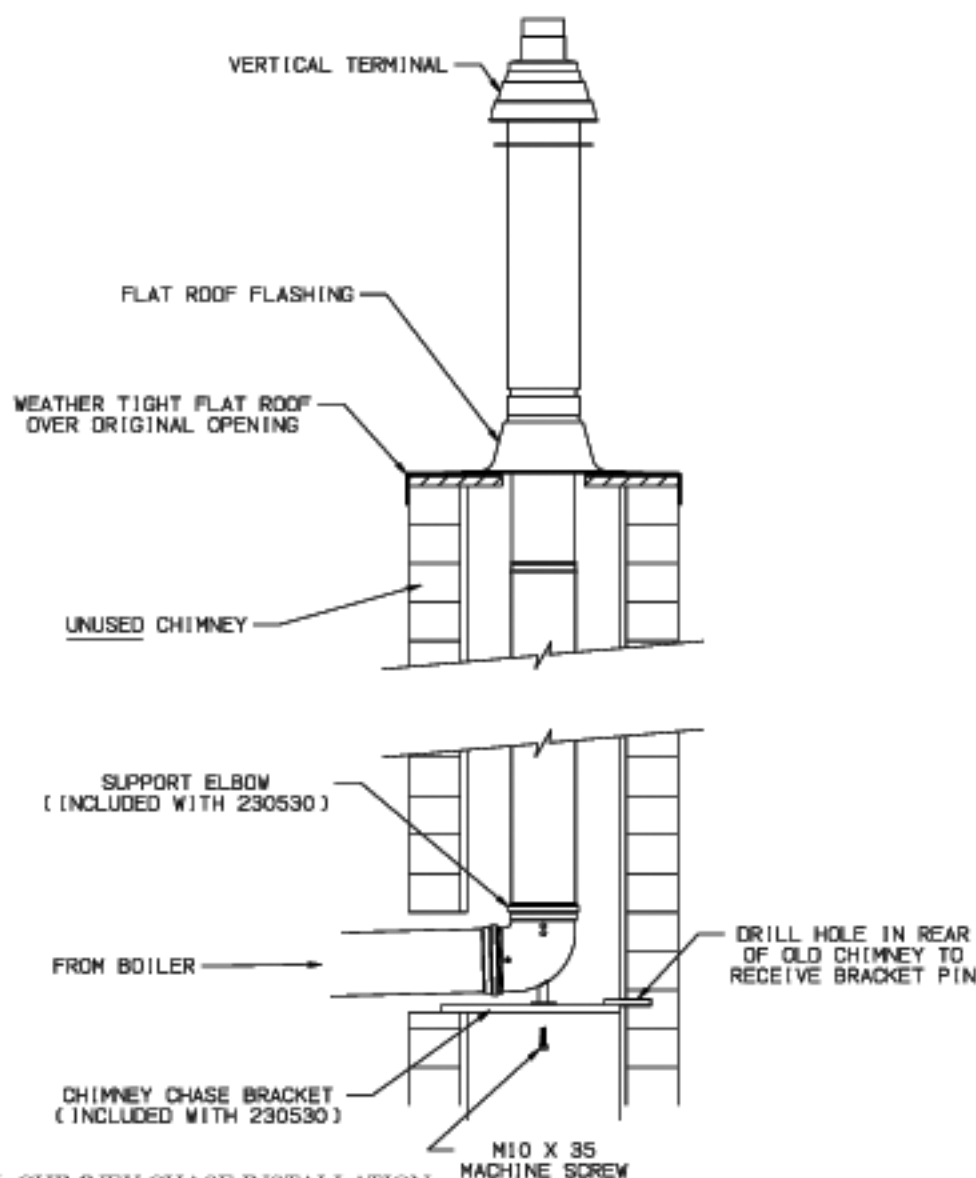

FIGURE 7.36: CHIMNEY CHASE INSTALLATION
7) **Chimney Chase Installation** - A vertical 80/125mm vent system can be installed in an unused masonry chimney. This installation is similar to other vertical installations with the following exceptions (Also see Figure 7.36):